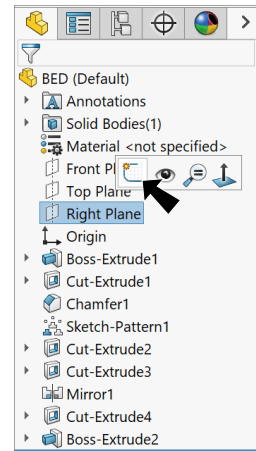

Fig. 54
Step 1. Click **Right Plane**  in the Feature Manager and click **Sketch**  on the context toolbar, **Fig. 54**.